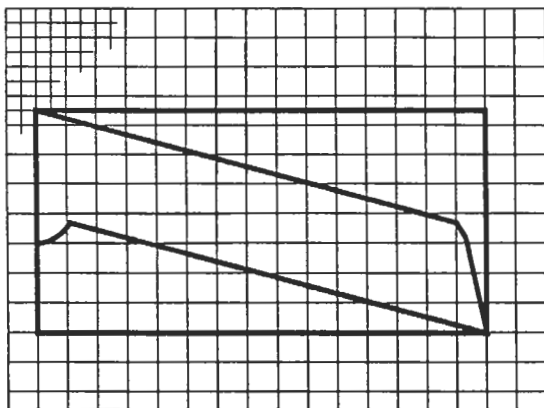

Figure 4 - Wing Section
4. Sketch in the shape of one wing section (right or left) inside the limits of the wing blank size. (See Figure 4.)